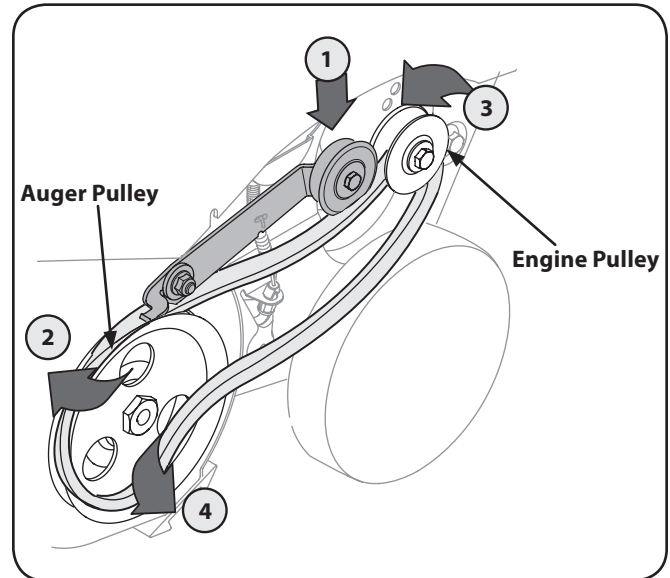

**Figure 7-1**
1. Remove the belt cover by removing the five hex screws that secure it to the frame. See Fig. 7-1.
**NOTE:** Push down on the idler pulley to release the belt from under the belt keeper. See Fig. 7-1.